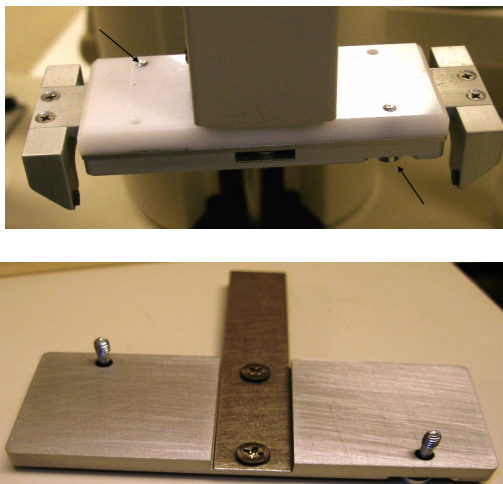

Figure 9. Metal plate on the grippers.
2. Remove the metal plate from the gripper (Figure 9).